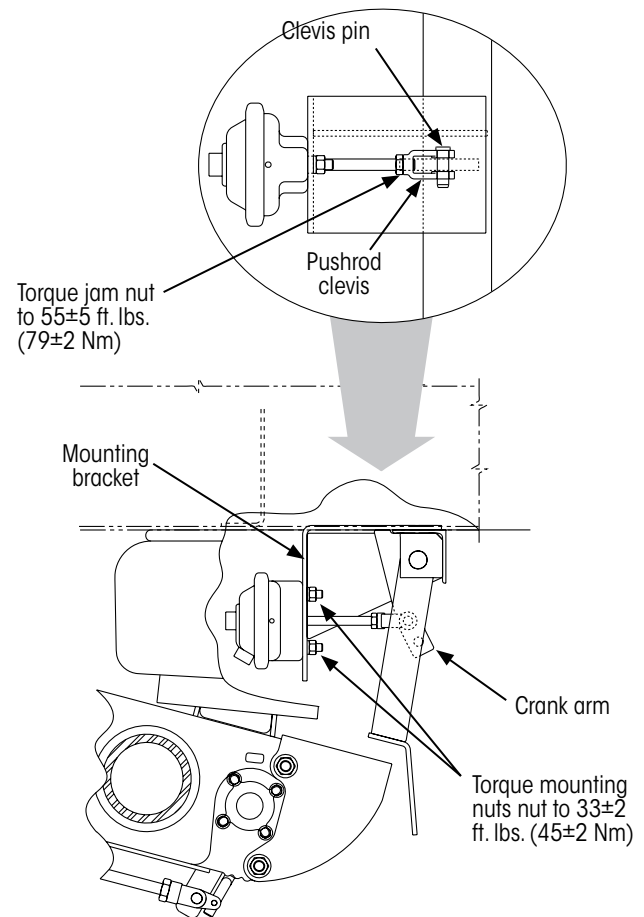

Figure 46: INTRAAX® stationary brake chamber installation details
2. Slide the brake chamber pushrod through the mounting bracket (Figure 46). Align the pushrod clevis with the top hole in the crank arm. Insert the clevis pin through the clevis and crank arm. Secure the clevis pin with a cotter pin.
3. Tighten the brake chamber mounting nuts (Figure 46) to 33±2 ft. lbs. (45±2 Nm) of torque.